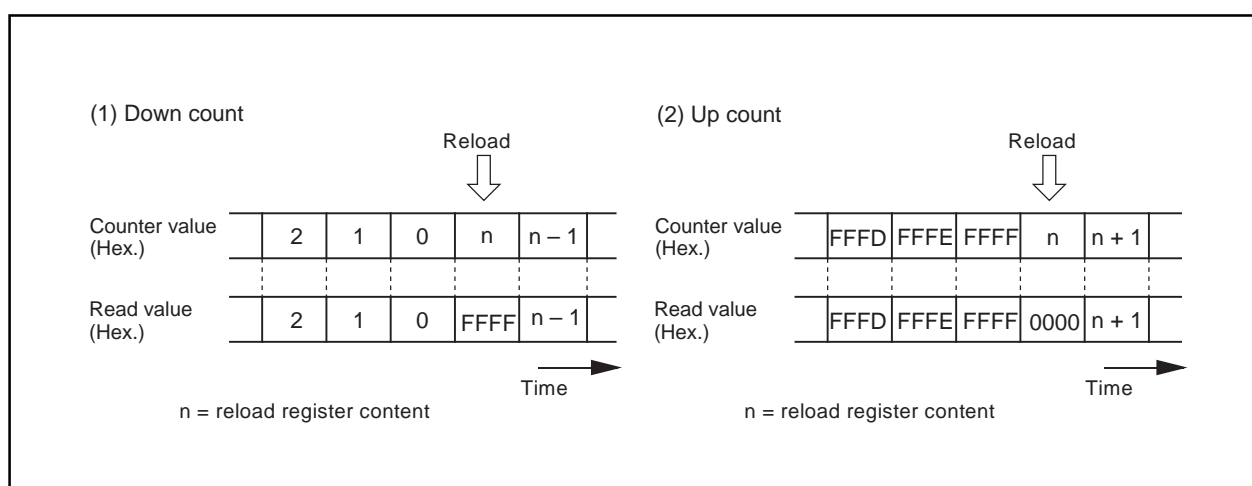

Figure 2.2.29. Reading timer Ai register
- (1) To clear reset, the count start flag is set to "0". Set a value in the timer Ai register, then set the flag to "1".
- (2) Reading the timer Ai register while a count is in progress allows reading, with arbitrary timing, the value of the counter. Reading the timer Ai register with the reload timing shown in Figure 2.2.29 gets "FFFF16" by underflow or "000016" by overflow. Reading the timer Ai register after setting a value in the timer Ai register with a count halted but before the counter starts counting gets a proper value.